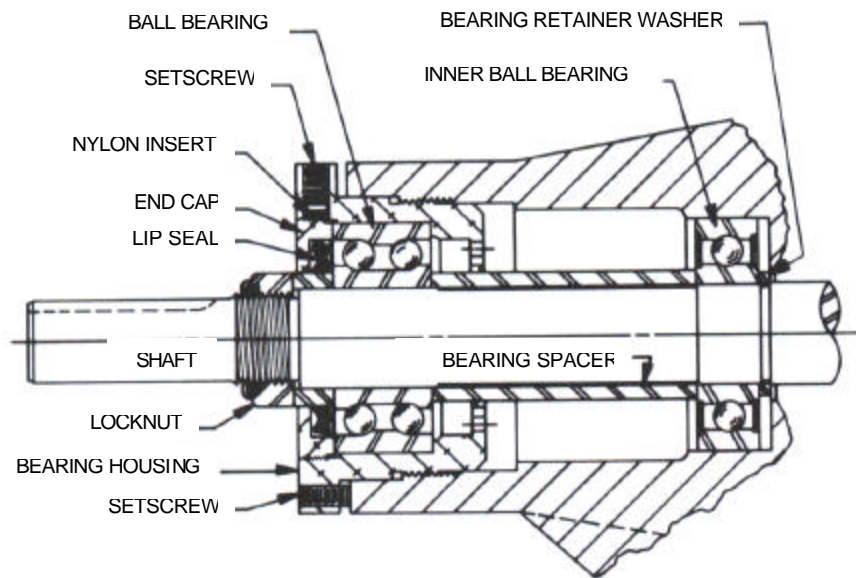

FIGURE 10 – THRUST BEARING ASSEMBLY AS, AK and AL SIZES
AS, AK, AL: Remove bearing spacer from shaft. See Figure 10.
11. **AS,AK,AL:** Remove bearing retainer washer. The washer may have stayed with Rotor and Shaft when removed or is against ball bearing. See Figure 10.
AS, AK, AL: Loosen two set screws in flange outside diameter. Rotate end cap and lip seal counterclockwise and remove. Remove ball bearing. See Figure 10.
AS, AK, AL: Install bearing spacer over shaft and against single row ball bearing. See Figure 10.
AS, AK, AL: Install ball bearing into bearing housing. Install lip seal in bearing housing end cap. The lip should face towards end of shaft. Put bearing spacer collar in lip seal and install in bearing housing and tighten set screws securely. See Figure 10.